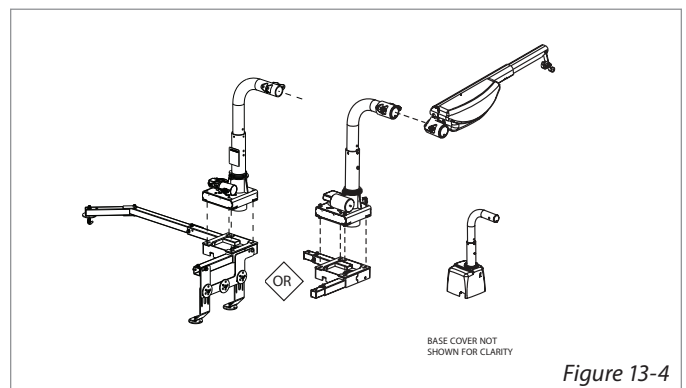

Figure 13-4
- 3. With an assistant, place the lift on top of the base** in the extreme back corner of the cargo space. This will yield the greatest available loading area. Slide the arm onto the post. [Figure 13-4]